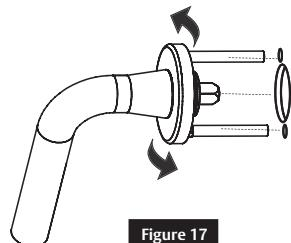

Figure 17
- Retract the latches by rotating the lever and opening the door. (Figure 17)